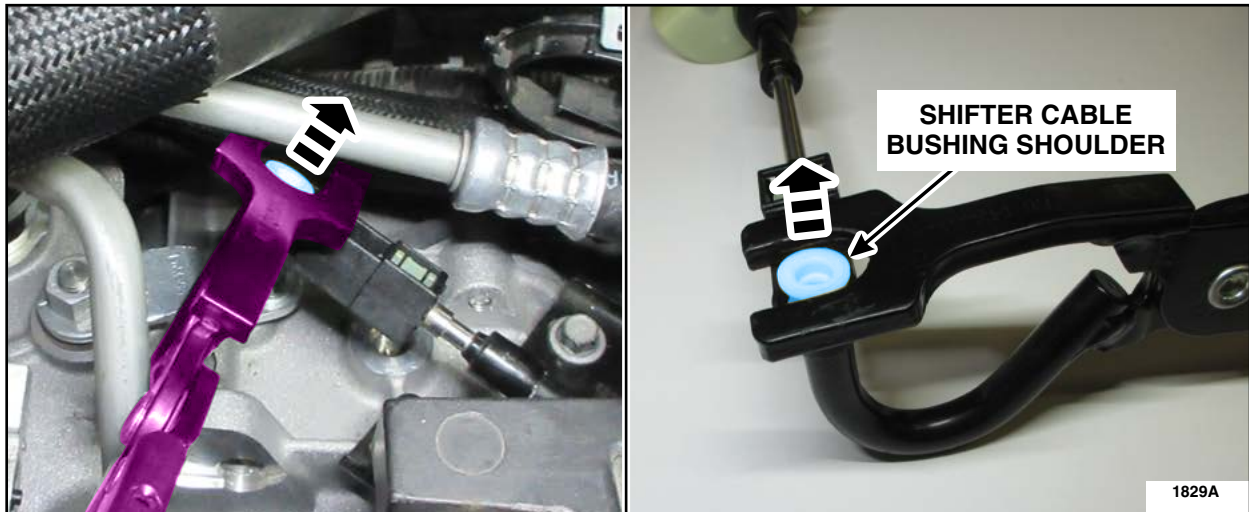

FIGURE 8
- Using a tool such as a Lisle 38350 - Exhaust Hanger Removal plier to press bushing out. By viewing Figure 8 the shoulder of bushing is positioned upward, small end of plier is pressing bushing out. Proceed to Step 8.